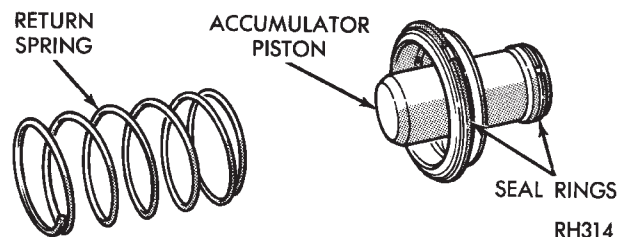

Fig. 10 Accumulator Piston And Spring
(7) Remove valve body attaching screws. Lower valve body slightly and remove accumulator piston and spring (Fig. 10). Rotate valve body down and away from case. Pull it forward to disengage park rod and remove valve body.